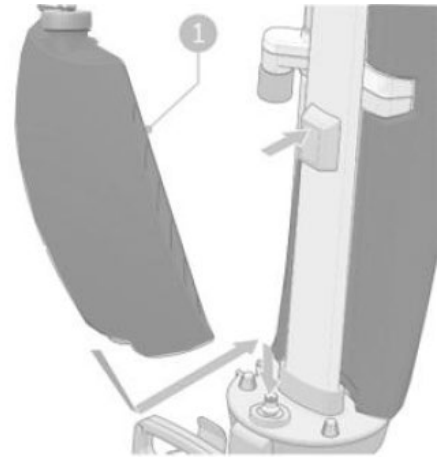

Fig 6
5. Put the tank on the i-mop® Lite with the valve first (Fig. 6, pos 1).